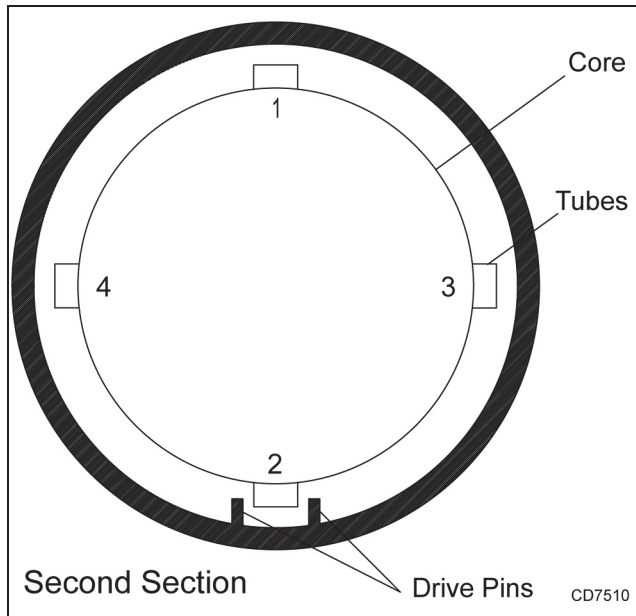

Figure 11. Second Section
2. Place the second section on the core with the drive pins rotated 180° from those on the first section (Figure 11).